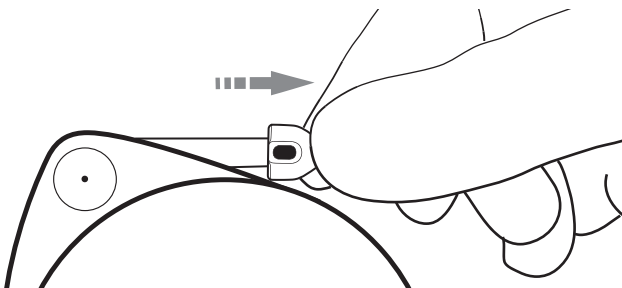

Figure 8. Checking for proper attachment to a SynchroMed II pump.
- a. Grasp the tapered portion of the connector (Figure 8).